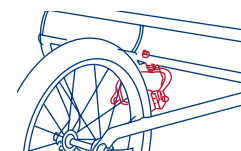
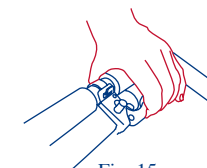

Fig. 14
Fig. 15
Your stroller may come equipped with a caliper brake system. (Fig. 14) The front wheel bicycle style caliper brake system that is designed to assist you in slowing the stroller on a hill or in the event of an emergency. Squeeze the brake handle to slow the stroller. (Fig. 15) The hand brake is not to be used as a parking brake.
- CALIPER BRAKE SYSTEM:** Squeeze the brake handle to slow the stroller. (Fig. 15) **NEVER** use the hand brake as a parking brake. This feature is only available on Type 1 stroller.